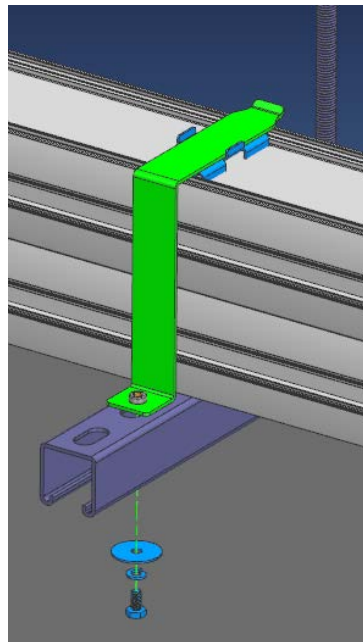

Figure 18 – Install top bracket and secure.
4. Insert top bracket into base bracket slot and secure with provided hardware (Figure 18).